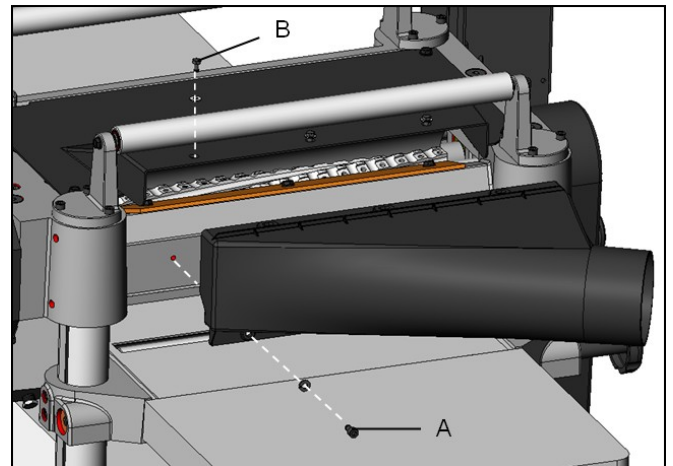

Fig. 5
Mount the dust chute to the planer hood with hex head screws and washers (A) & (B). Make sure the dust collection system has sufficient capacity and suction for your planer. Always turn on the dust collection system before starting the planer. Figure 5